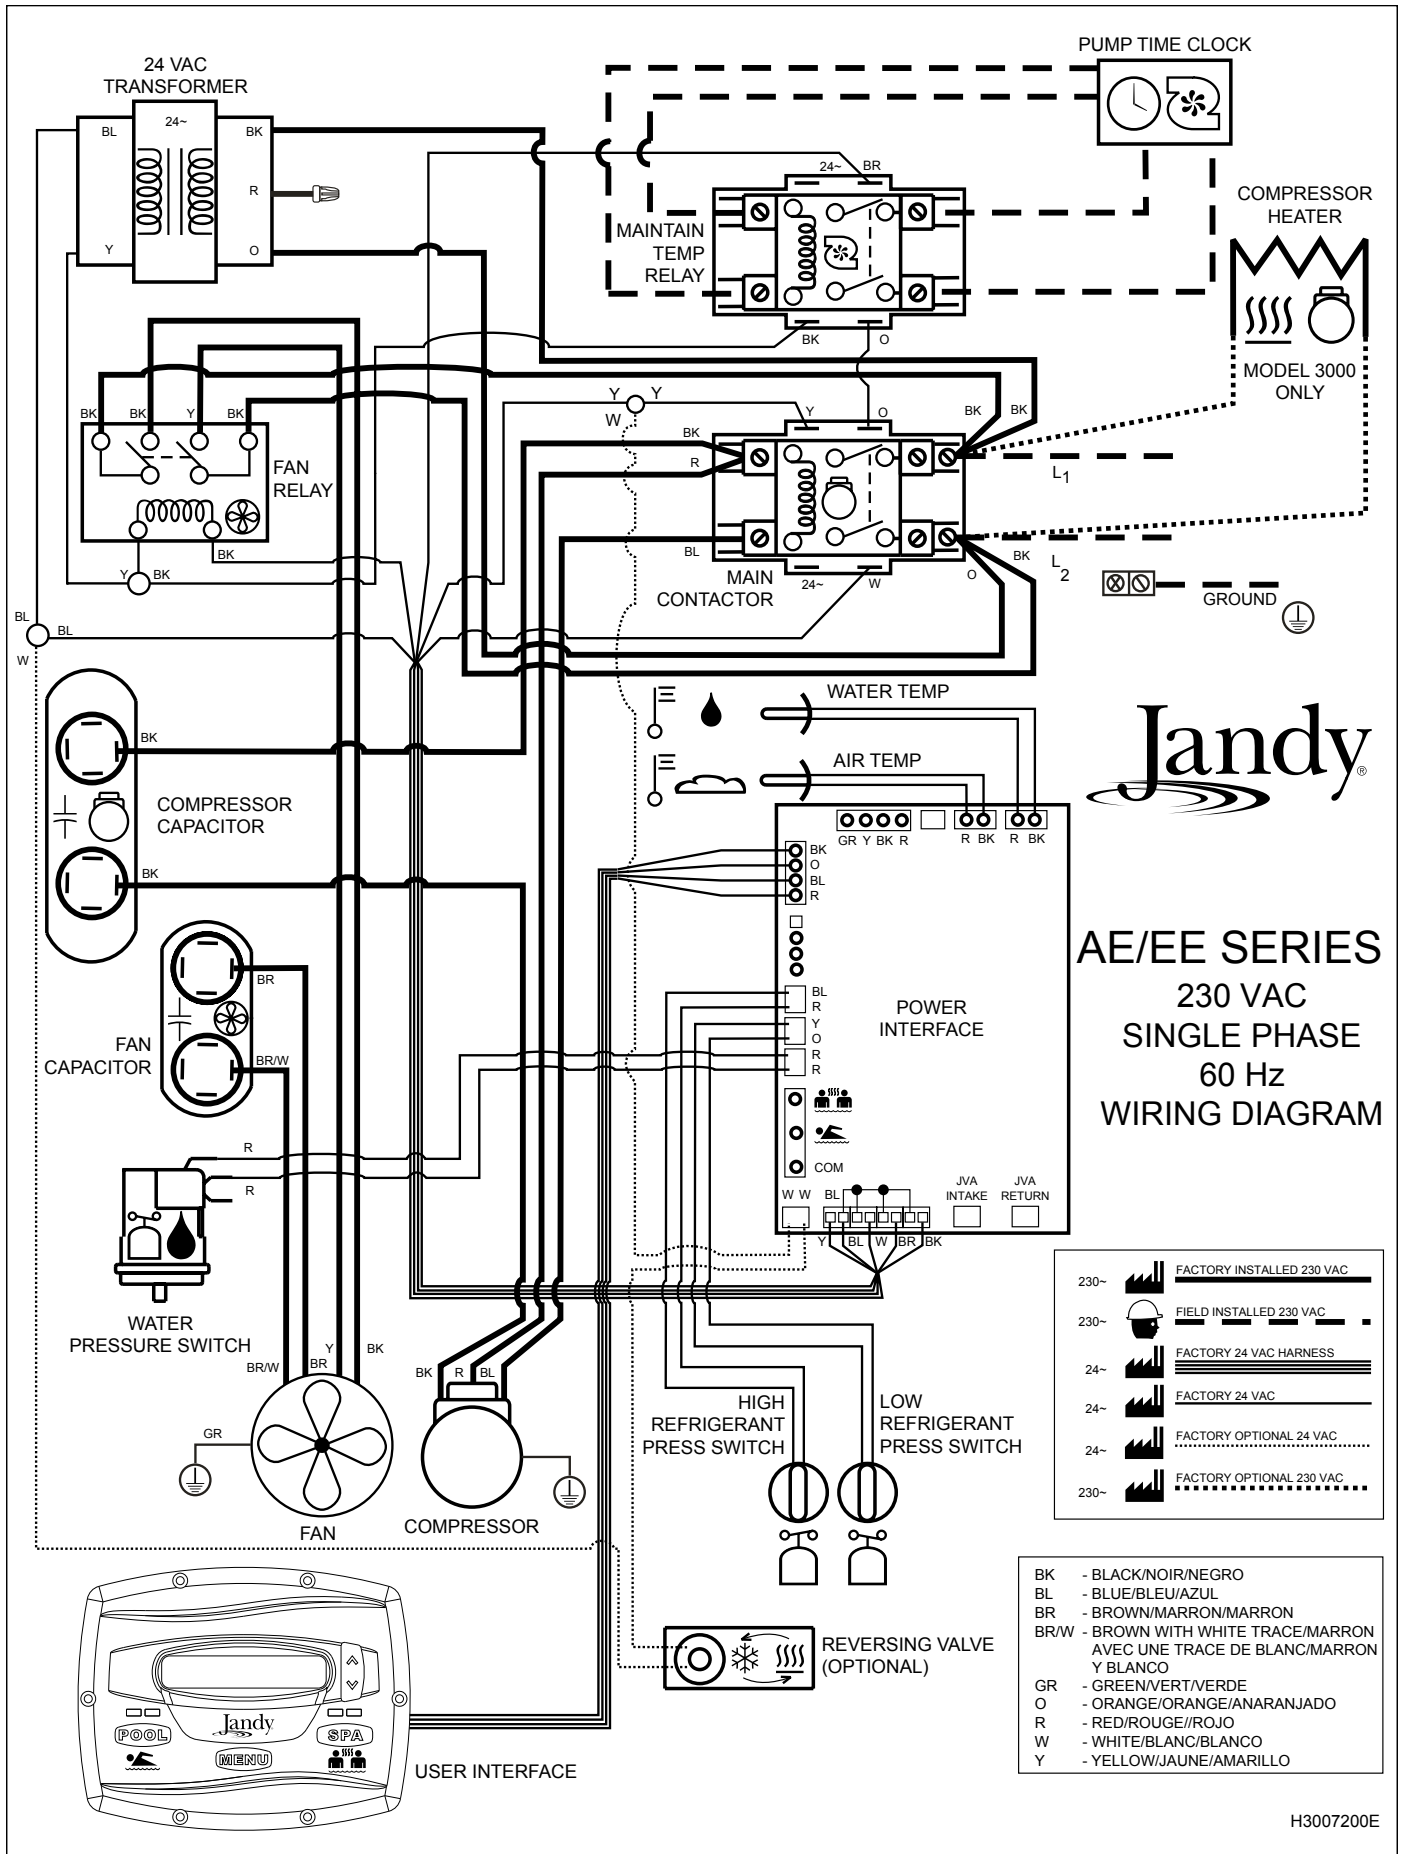
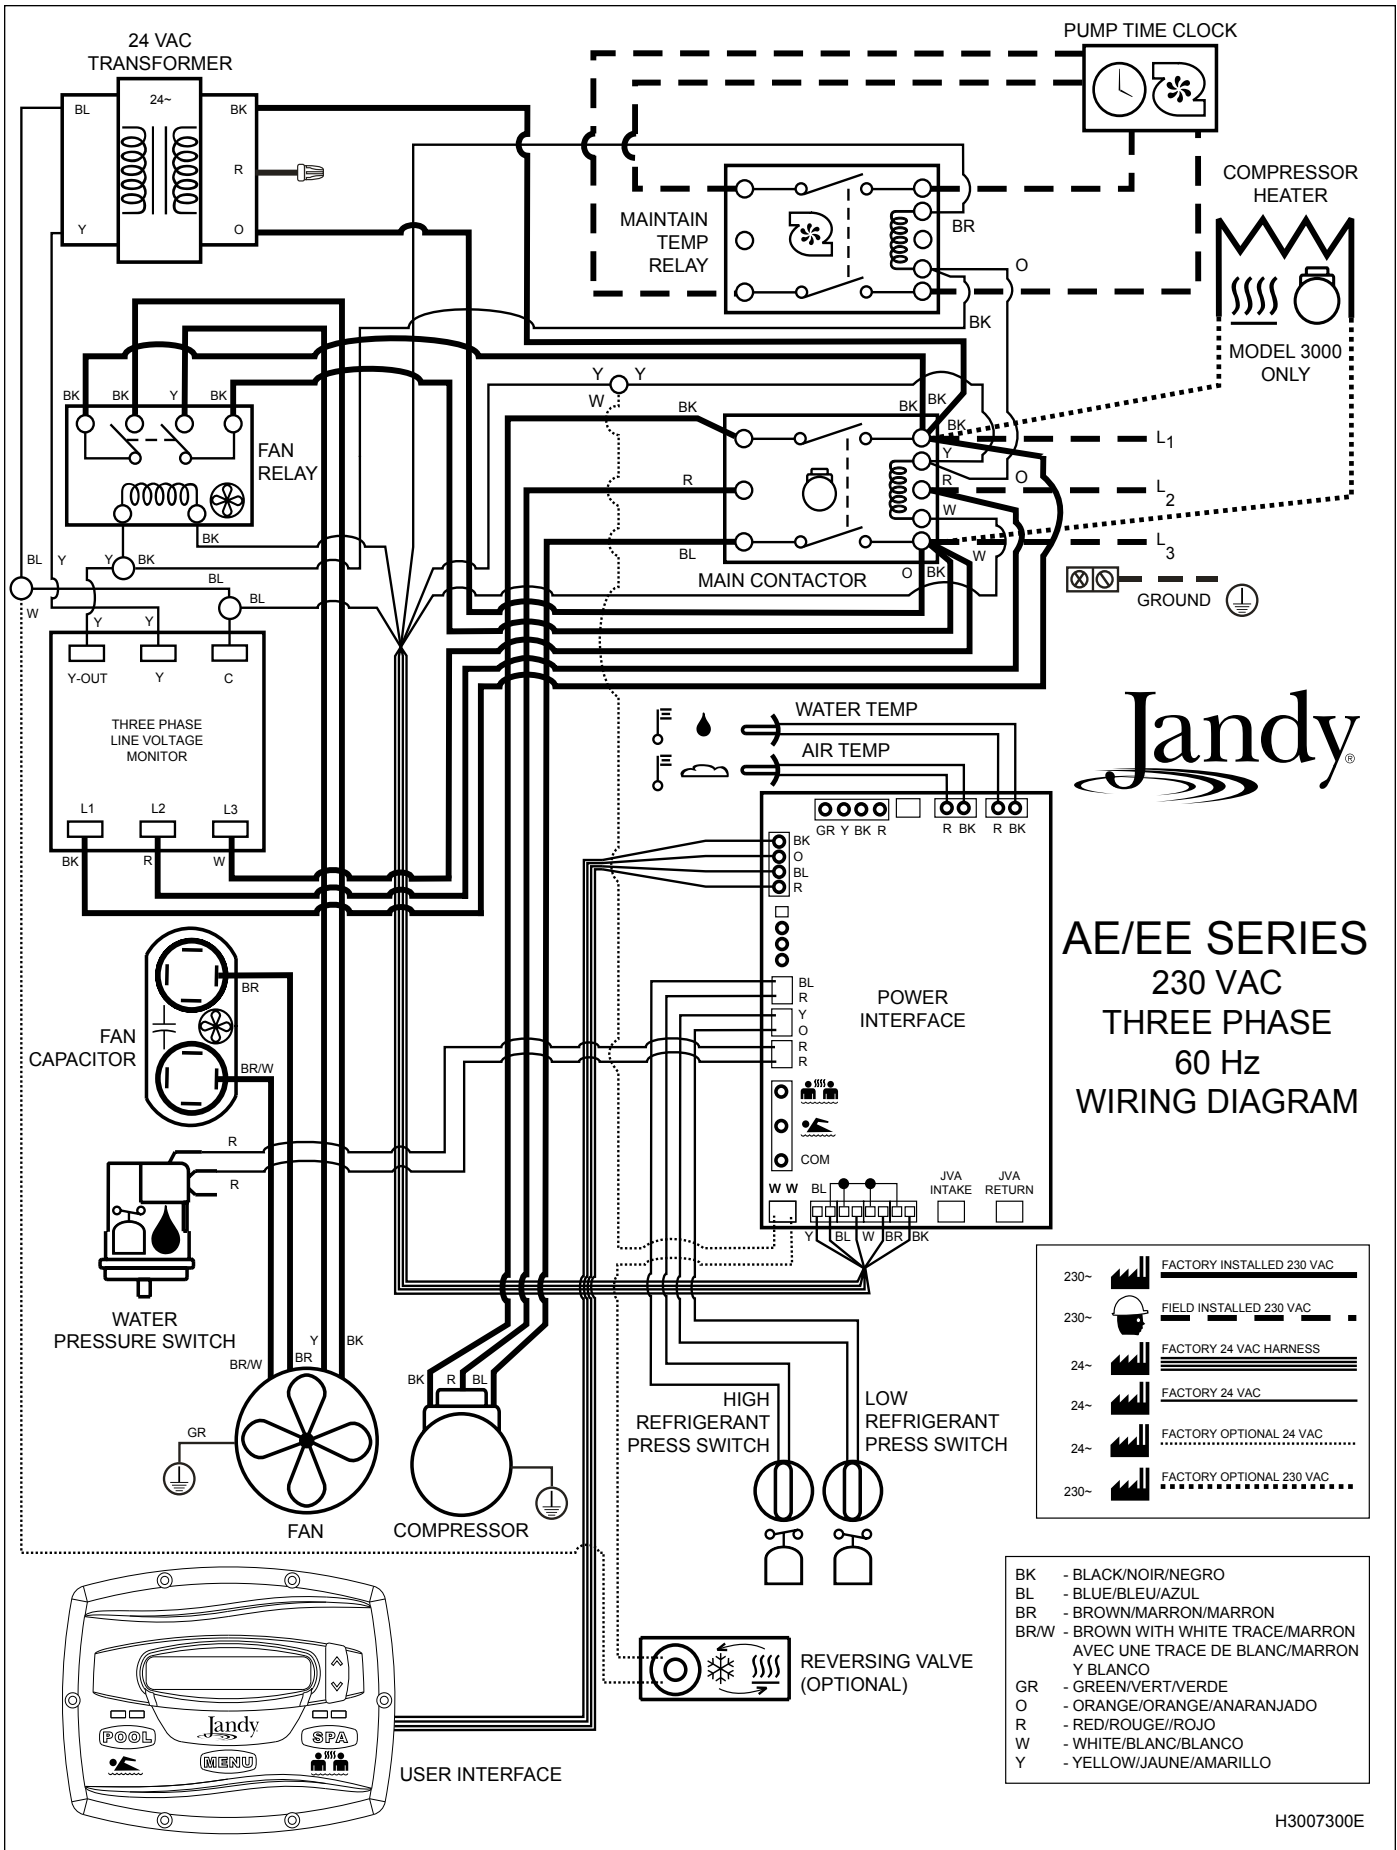

Figure 8. EE-Ti Single-Phase Electrical Supply Wiring Diagram
Figure 9. EE-Ti 3-Phase Electrical Supply Wiring Diagram
Wiring connections must be made exactly as shown in the wiring diagram found on the inside of the heat pump access compartment (see Figure 8 for single phase electrical wiring and Figure 9 for 3-phase electrical wiring). The heat pump must include a definite means of grounding and bonding. There is a bonding lug on the right side of the heat pump, where a bond wire must be attached.
5. Connect the wires to the terminals on the main contactor as shown in the wiring diagrams. Refer to Figures 8 and 9.